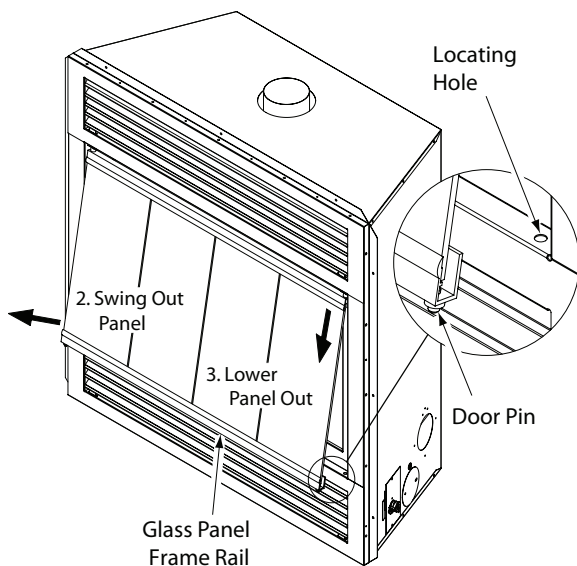

Figure 27 - Removing/Replacing Glass Door
2. Swing bottom glass panel assembly out until door pins on lower rail clear bottom face frame (see Figure 27, page 16).